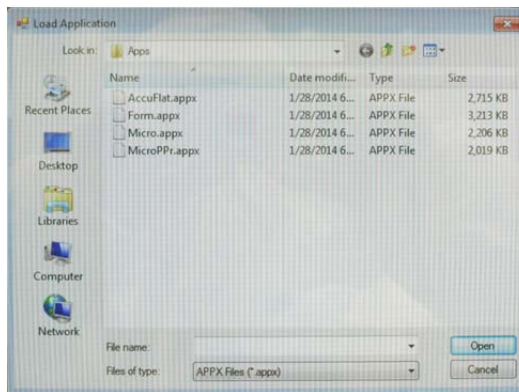

Figure 1
3. Click **Load Application** icon (the first icon on the left), select **Micro.appx** from the pop-up dialog window (Figure 1). Then click Open.